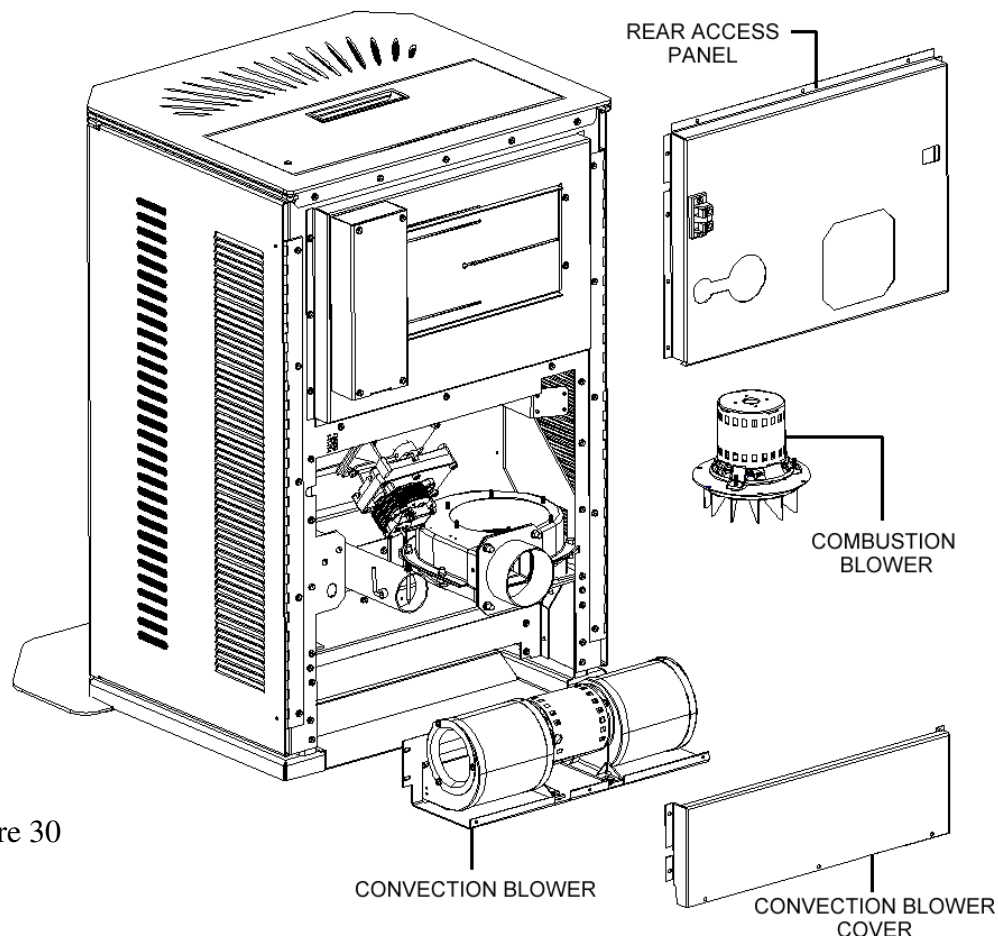

Figure 30
2. The Exhaust System should be thoroughly cleaned at least annually. Call your dealer for this service. (See figure 30 on page 43)
3. The Motor/Fan area behind the firebox and under the hopper should be vacuumed annually. (See figure 30 on page 43)
4. The exhaust fan should be removed and cleaned with compressed air annually. Call dealer for this service. Annual oiling of the motors is not needed. (See figure 30 on page 43)
5. The Convection fans should be removed and cleaned with compressed air annually. Annual oiling of the motors is not needed. (See figure 30 on page 43)